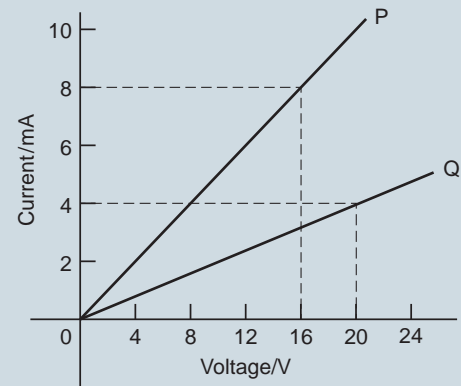

Figure 4.9
- Graphs of current against voltage for two resistors P and Q are shown in Fig. 4.9. Determine the value of each resistor.